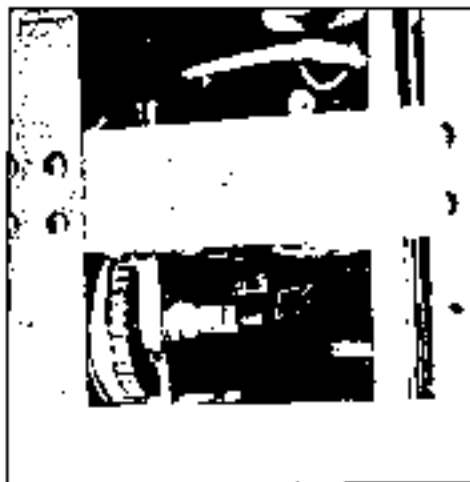

Fig. 5-49 Insert rig pin into drum
- (1) Insert rig lock pin into control wheel.
- (2) Insert rig pin into drum of elevator trim forward of center pedestal in the cockpit. (See Fig. 5-49)